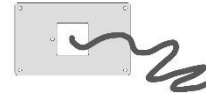

Figure 10—AC power cables routed out of concrete
2. Route AC power-in cable up through concrete pad or driveway at center mark for pedestal baseplate, (Figure 10) leaving sufficient length to route cable up through pedestal and into mounting charger.